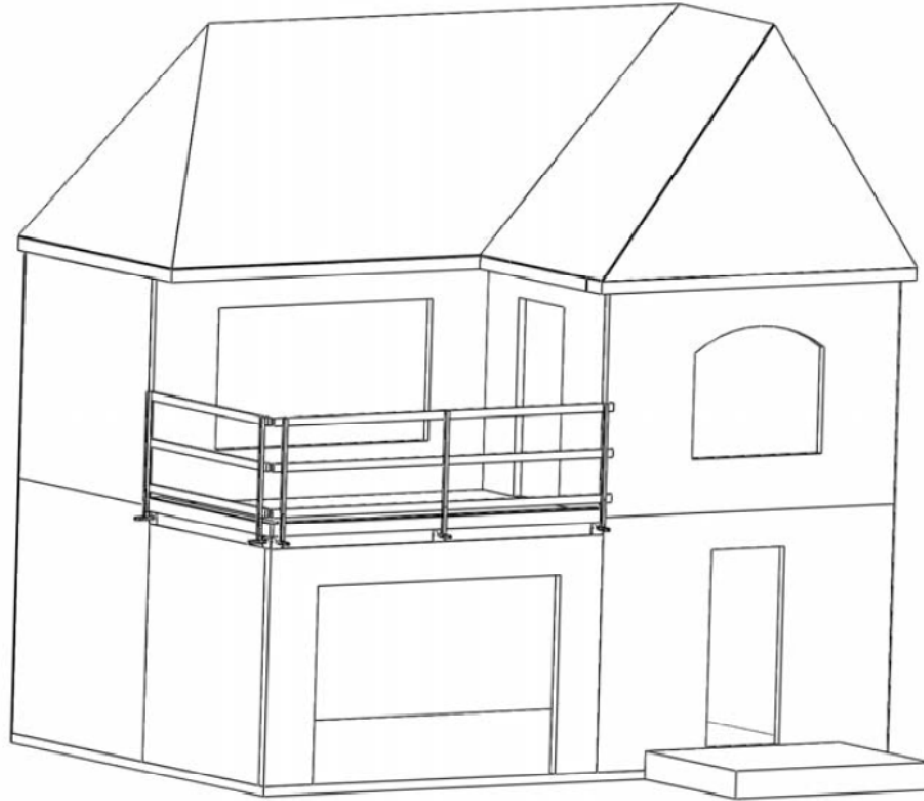

Fig 7
Insert 2"x 4"x 96" dimensional lumber or pieces of desired length into the upper cradle bracket across two (2) posts. Repeat for middle and lower cradle bracket forming a completed section of safety system. Overlap dimensional lumber at each post 6" or more. Use 2"x 4"x 6" blocks at each end post to secure the dimensional lumber in the cradle bracket. (Fig 7)